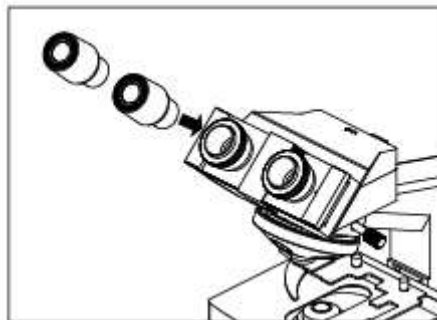

Figure-5
7.3.2 Installing the eyepieces (Figure-5,6)